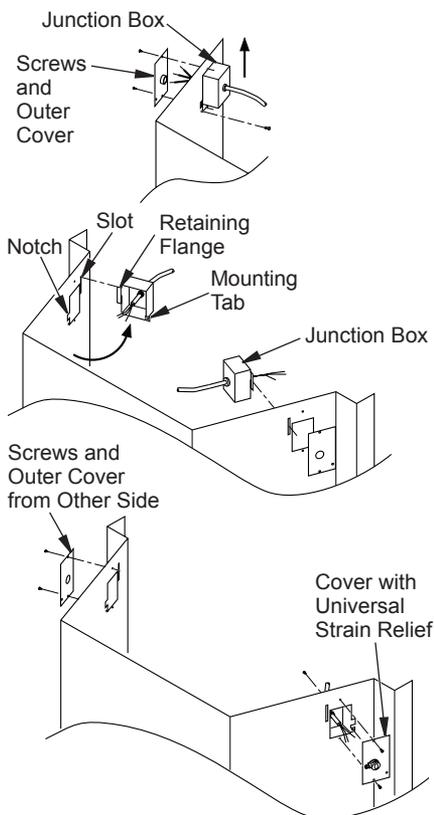

Figure 7 - Relocating Junction Box to Left
1. Remove 2 screws and outer cover on right side (see Figure 7, page 6).